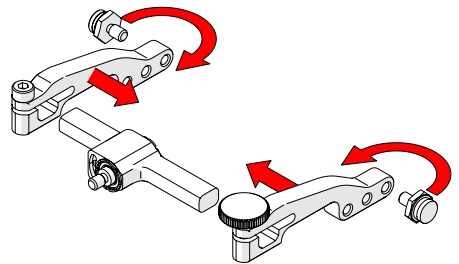

Fig. 106 - Attach arms and move buttons
4. Place the pivot buttons on the inside of the probe holder arms (Fig. 106) using a 3/8 in wrench (Fig. 34). Slide the arms onto the yoke and tighten the probe holder arm adjustment knob and the arm clamp screw.